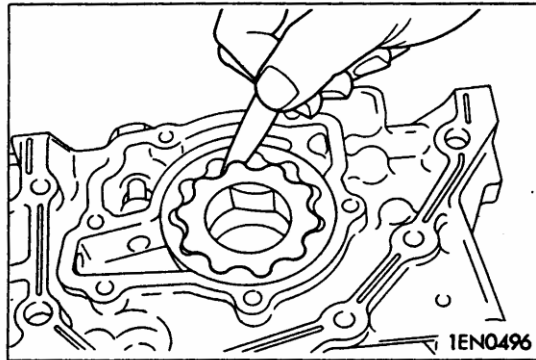

Fig.4-87
- (1) Fit the rotor into the front case.
- (2) Check the tip clearance using a thickness gauge, see Fig.4-87.